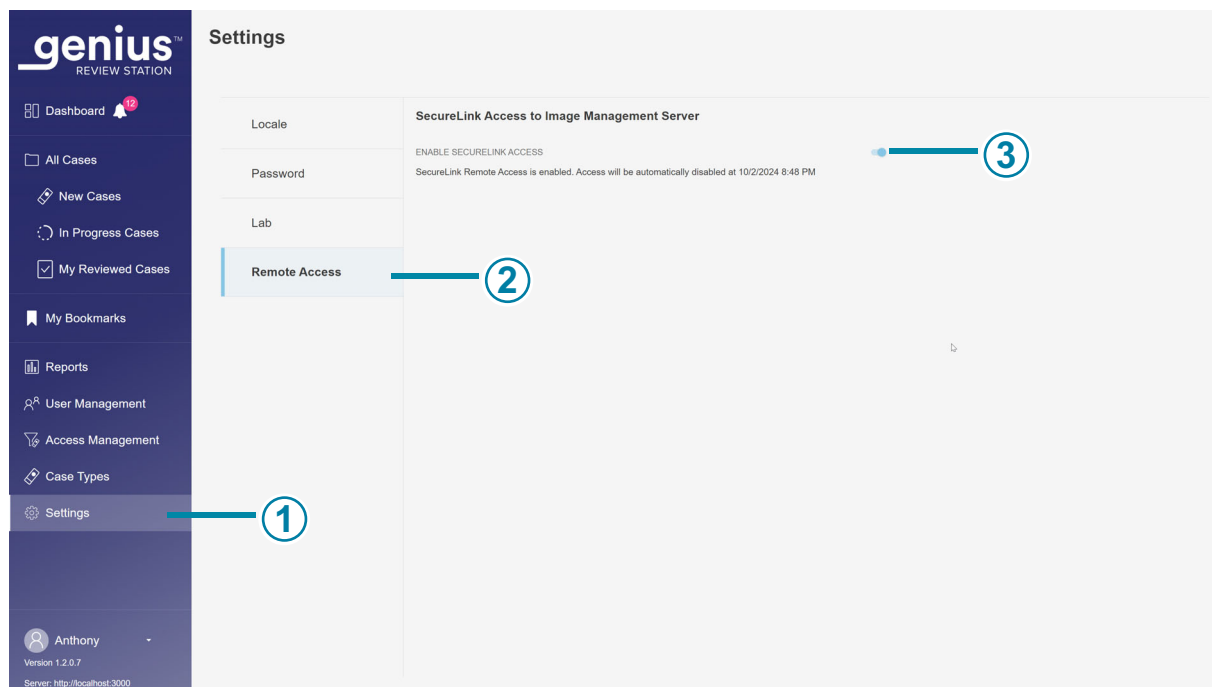

Figure 1-3-14 Review Station settings for remote access to the Image Management Server
Key to Figure 1-3-14
①	The lighter color in the menu bar indicates that Settings is selected.
②	The blue color in the list of settings indicates that the Remote Access settings are selected.
Key to Figure 1-3-14**③****Enable SecureLink Access to the Image Management Server**